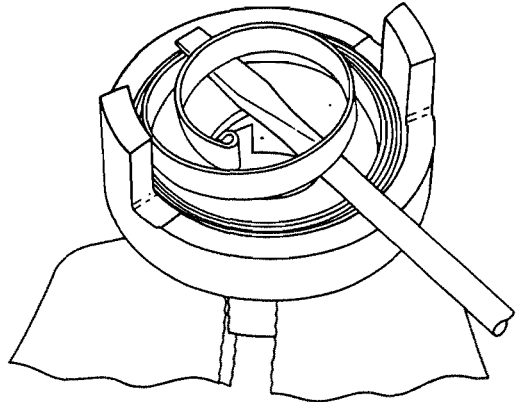

Figure 920. Lifting Inner End of Spring
- E. Using heavy gloves to protect the hands, wind spring (47) into body (46) manually, lifting spring coils one at a time over projections on body. Extreme care should be used to avoid scratching or nicking the spring. After winding spring, brush a coating of light oil (such as clean engine oil) over spring coils.
- F. Pry up one and one half turns at inner end of spring with a small screwdriver and support in position as shown in Figure 920.